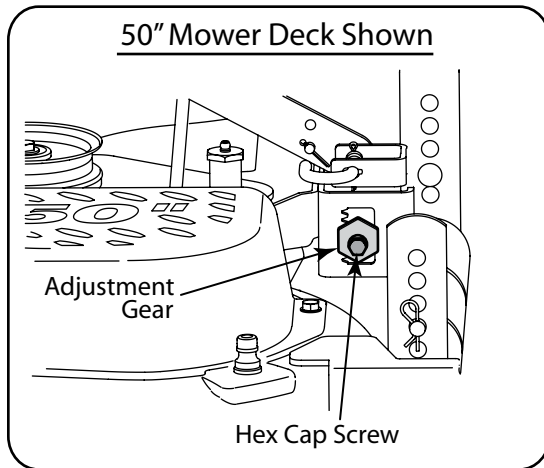

Figure 6-6
- Working from the left side of the tractor, loosen, but do not remove, the hex cap screw on the left deck hanger bracket. Working from the left side of the tractor, loosen, but do not remove, the hex cap screw in the left deck adjustment bracket. See Figure 6-6.
- To even the deck turn the adjustment gear, located immediately behind the hex cap screw, clockwise (rearward) to lower the left side of the deck. Turn the gear counter-clockwise (toward front) to raise the left side of the deck. See Figure 6-6.